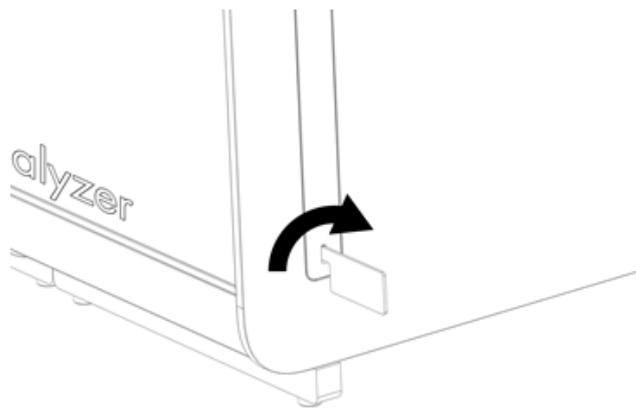

Figure 5. Removing protective covers.
2. Remove the protective covers from the side of the Analytical Module using the Protective Cover Removal Tool delivered with the QIAstat-Dx Analyzer 2.0 (Figure 5 below).